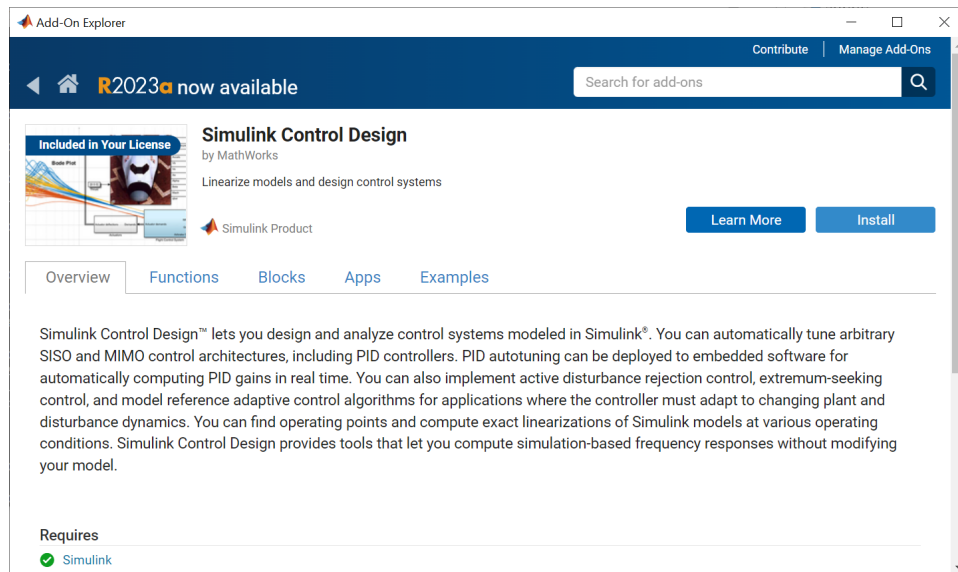

Figure 4: The Simulation Control Design add-on selected and ready for installation.
3. To install, click on the Install button, which will highlight in light blue when hovered over like in Fig. 4.